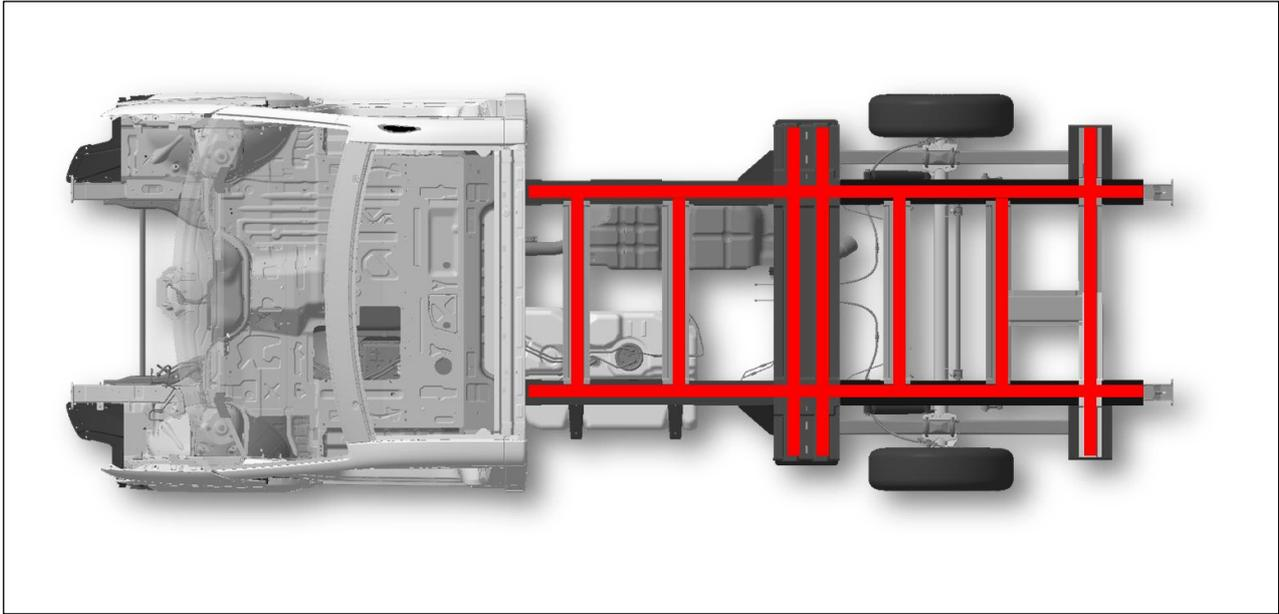

Fig. 5 Crafter flat frame chassis adhesive areas for body (illustration of frame area)
- The wetting grade of the adhesive areas (red) must be **at least 75 %** (see Fig. 5 “Crafter flat frame chassis adhesive areas for body”)